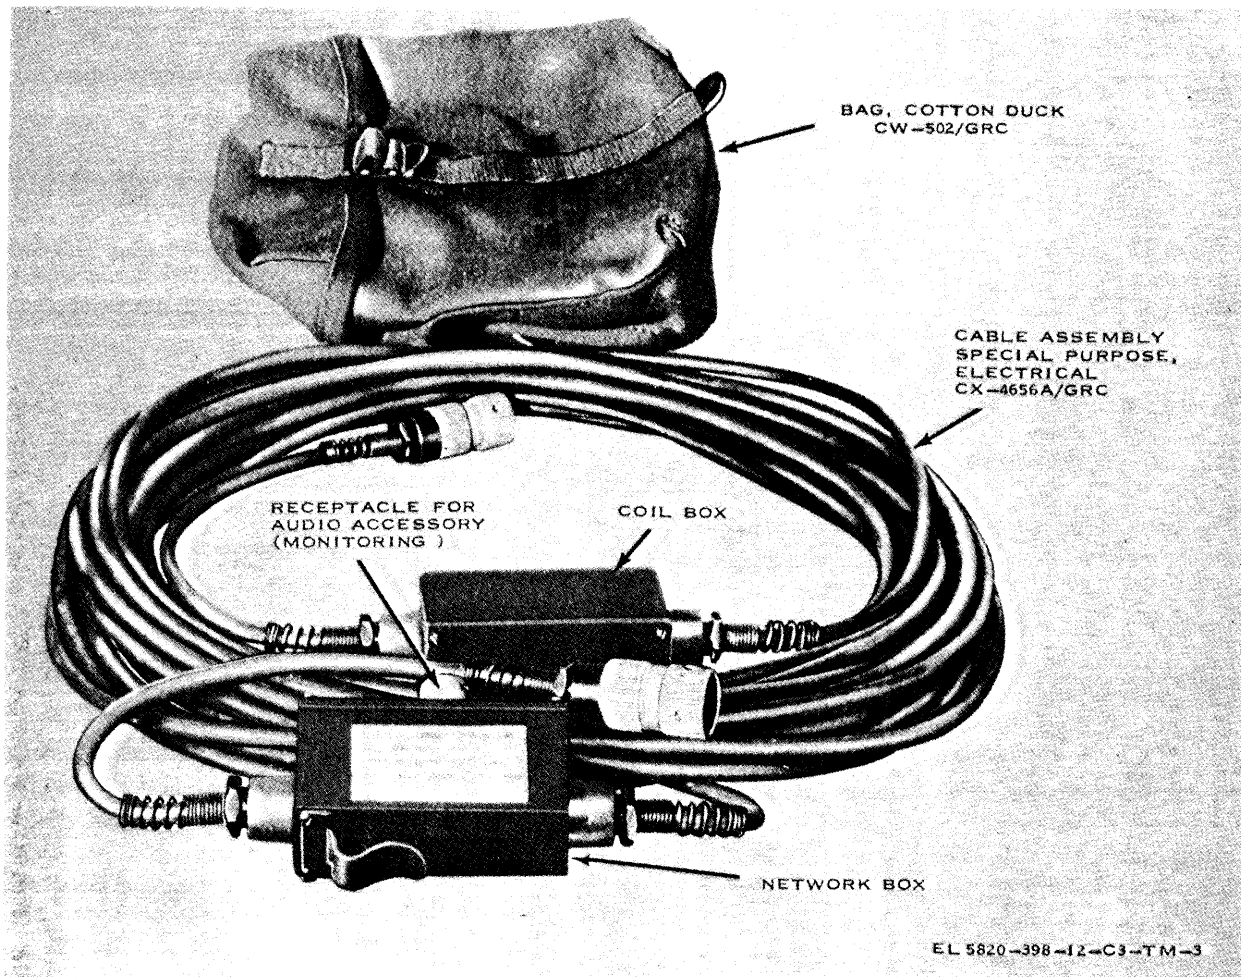

Figure 6-1. Retrasmision Cable Kit MK-456A/GRC.
With Cable Assembly, Special Purpose, Electrical CX-4656/GRC from Retransmission Cable Kit MK-456/GRC (fig. 6-1), two compatible FM radios may be used as a radio relay for other radio sets that are too far distant to communicate directly with each other. The radio relay can be accomplished by interconnecting the radios listed in paragraph 3-10c(1) through (3) with the CX-4656/GRC as shown in figure 6-2.